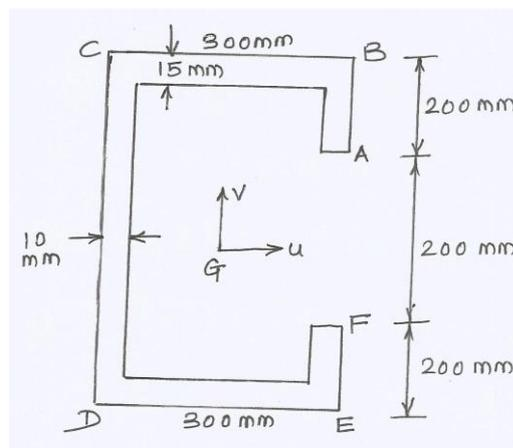

Figure-4
- (c) Determine the position of the shear centre for the thin-walled open section shown in Figure-4. Moment of Inertia of the section $I_u = 1070 \times 10^6 \text{ mm}^4$. 07